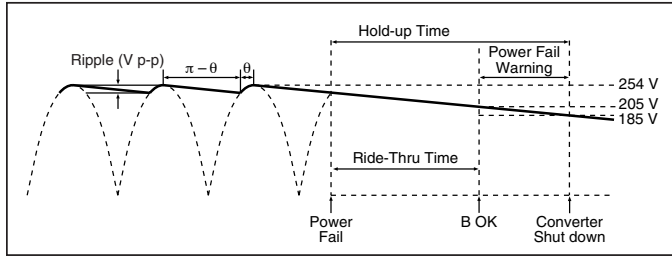
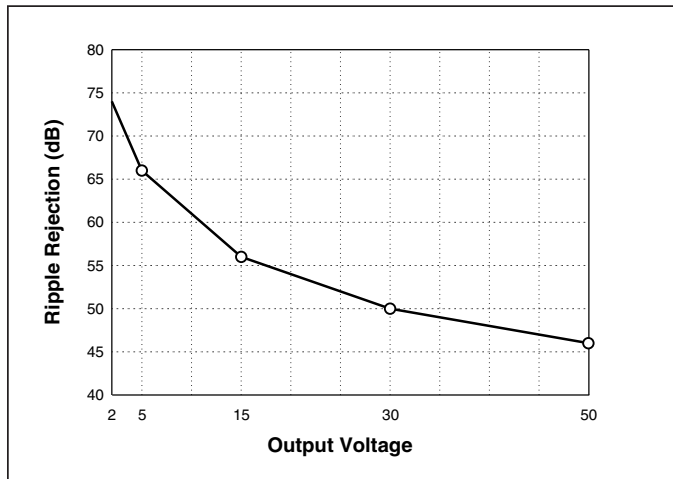

Figure 13 — Hold-up time
Figure 17 — Converter ripple rejection vs. output voltage
Hold-up Capacitors. Hold-up capacitor values should be determined according to output bus voltage ripple, power fail hold-up time, and ride-through time (see Fig. 13). Many applications require the power supply to maintain output regulation during a momentary power failure of specified duration, i.e., the converters must hold-up or ride-through such an event while maintaining undisturbed output voltage regulation. Similarly, many of these same systems require notification of an impending power failure in order to allow time to perform an orderly shut down.
The power fail warning time (Δt) is defined as the interval between B OK and converter shut down (EN) as illustrated in Fig. 13. The Bus-OK and Enable thresholds are 205 V and 185 V, respectively. A simplified relationship between hold-up time, operating power, and bus capacitance is obtained by inserting these constants:
For example, a converter whose output is 15 V and nominal input is 300 V will provide 56 dB ripple rejection, i.e., 10 V p-p of input ripple will produce 15 mV p-p of output ripple (see Fig. 17). Equation 3 is again used to determine the required capacitance. In this case, V_1 and V_2 are the instantaneous values of bus voltage at the peaks and valleys (see Fig. 13) of the ripple, respectively. The capacitors must hold-up the bus voltage for the time interval (Δt) between peaks of the rectified line as given by:
Determining the Ripple on the Output of the DC-DC Converter. Figure 17 is used to determine the ripple rejection of the DC-DC converter and indicates a ripple rejection of approximately 60 dB for a 12 V output. Since the ripple on the bus voltage is 12 Vac and the ripple rejection of the converter is 60 dB, the output ripple of the converter due to ripple on its input (primarily 120 Hz) will be 12 mV p-p. Note that 2nd Generation converters have greater ripple rejection than either VI-200s or VI-J00s.